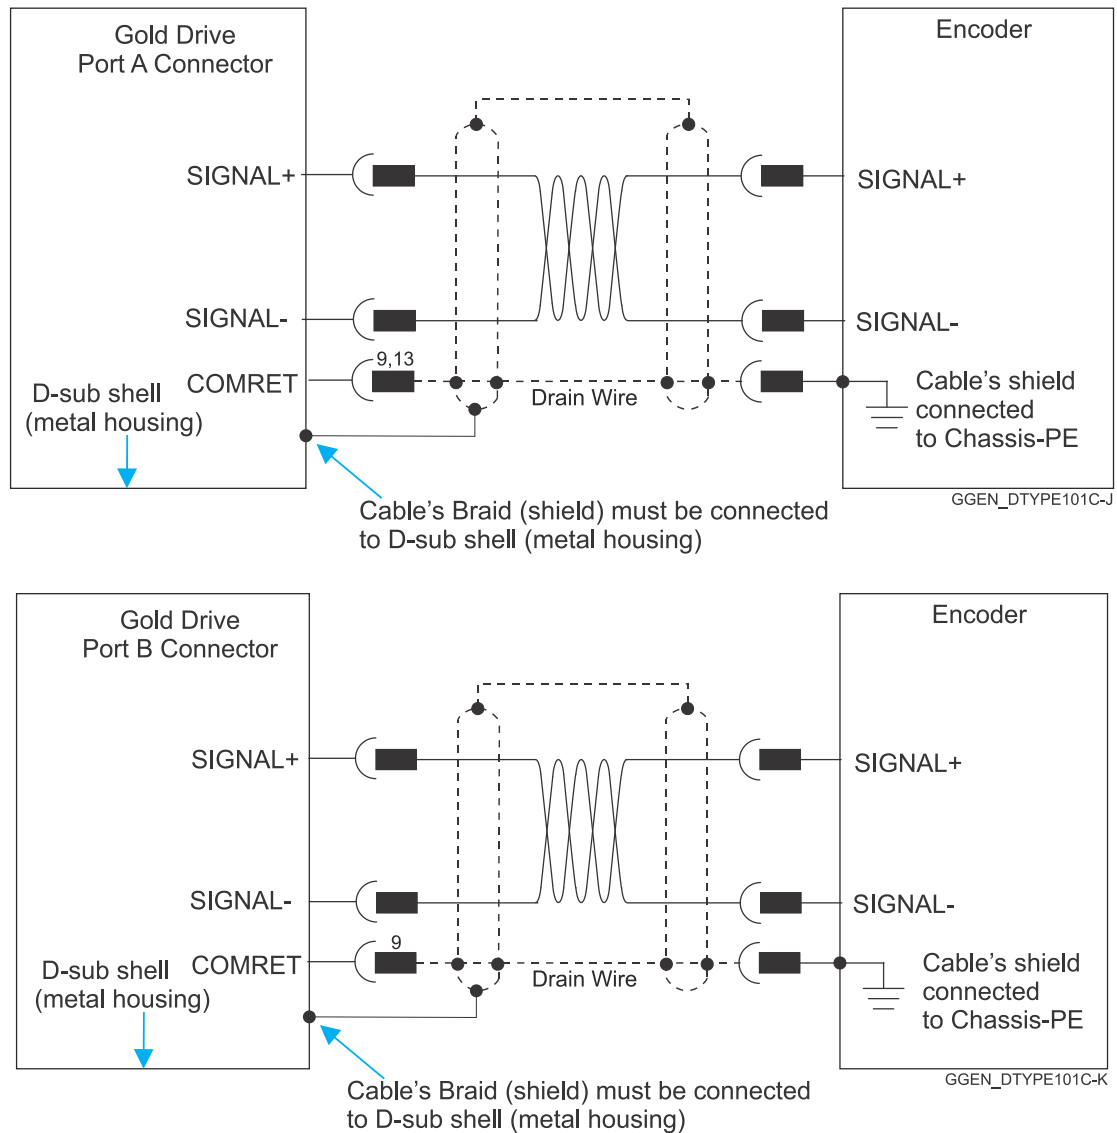

Figure 9: Feedback Port A and B Cable Assemblies
- a. At the drive, connect the feedback drain wire to one of the COMRET terminals in the D-Type feedback connector (Figure 9).